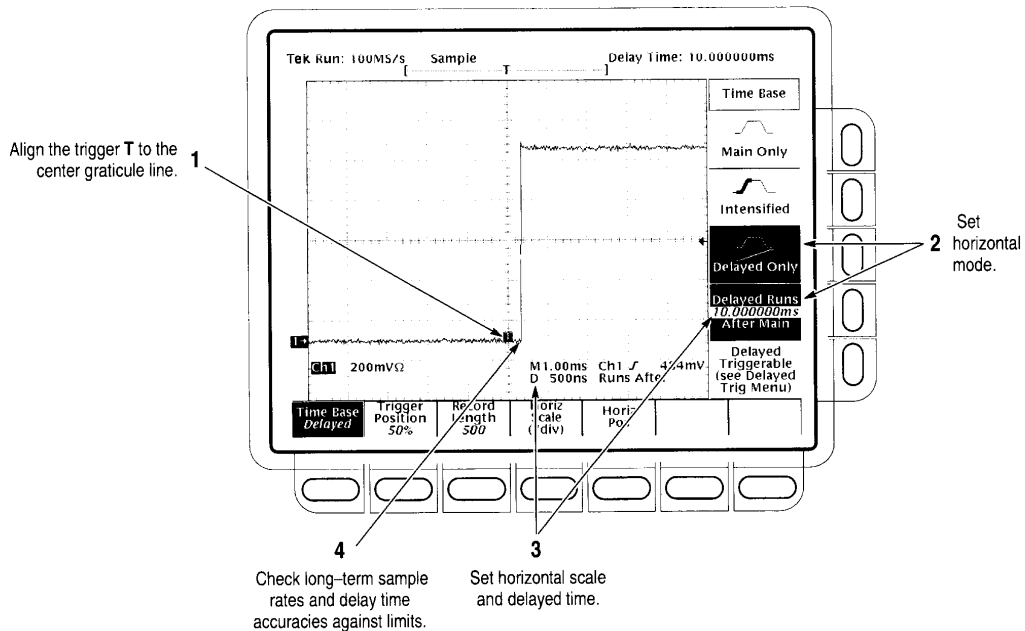

Figure 5. Time Base Accuracy.
- (6) Adjust front-panel **VERTICAL SCALE** knob to display **200 mV**.
- (7) Press front-panel **VERTICAL MENU** key.
- (8) Press main-menu **Coupling** key.
- (9) Press side-menu **W** key to select **50 W** setting.
- (10) Press front-panel **SET LEVEL TO 50%** key.
- (11) Adjust front-panel **VERTICAL POSITION** knob to center test signal.
- (12) Adjust front-panel **HORIZONTAL SCALE** knob to display **1 ms**.
- (13) Press front-panel **TRIGGER MENU** key.
- (14) Press main-menu **Mode & Holdoff** key.
- (15) Press side-menu **Normal** key.
- (16) Align trigger **T** to center vertical graticule line by adjusting the **HORIZONTAL POSITION** knob. See figure 5.